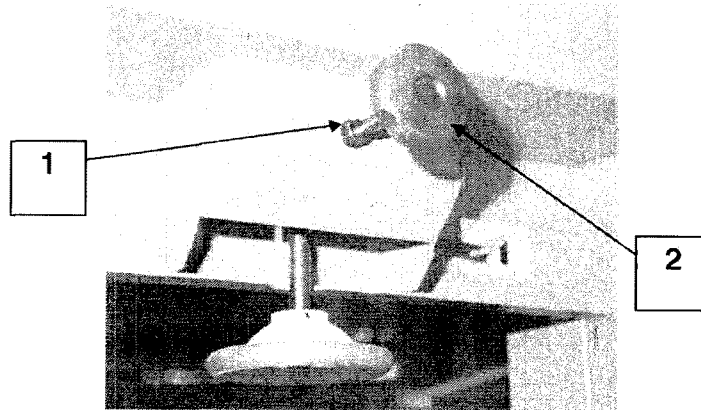

Figure 5.3
5.3 Tracking a Saw Blade (Figure 5.3)